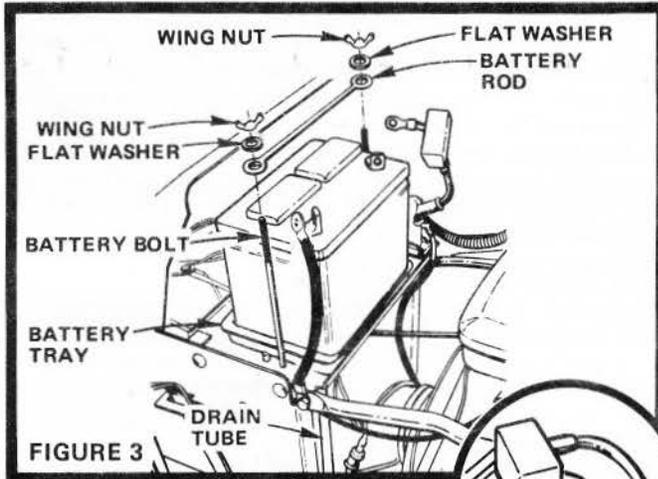

FIGURE 3
- b. Remove tape from Plastic Tray. Make sure Drain Tube (Fig. 3) is fastened to Drain Hole in Battery Tray and Battery Tray is positioned in hole of Battery Support.
- c. Place Battery in Plastic Tray (Battery Terminals to front of Tractor) (Fig. 3).
- d. Hook Battery Bolt into slot on the left side of Battery Support (Fig. 3). Fasten Battery Rod to Battery Bolt with a Flat Washer and Wing Nut.
- e. Hook remaining Battery Bolt into slot in R.H. side of Battery Support and fasten Battery Rod with a Flat Washer and Wing Nut (Fig. 3). Tighten Wing Nuts securely.